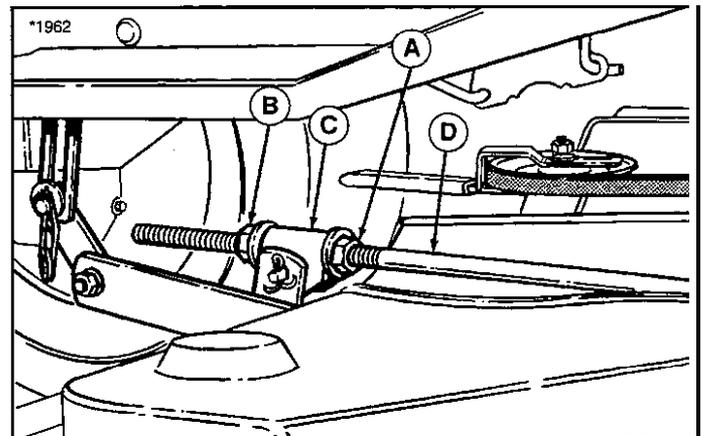

Figure 40. Leveling The Mower Front-To-Back
8. See Figure 40. To raise front of mower deck, loosen front nut (A) and turn rear nut (B) against bracket (C).
9. To lower front of mower deck, loosen rear nut (B) and bracket (C) will move backwards to lengthen rod.
10. Re-check measurement before tightening front nut (A) against bracket.